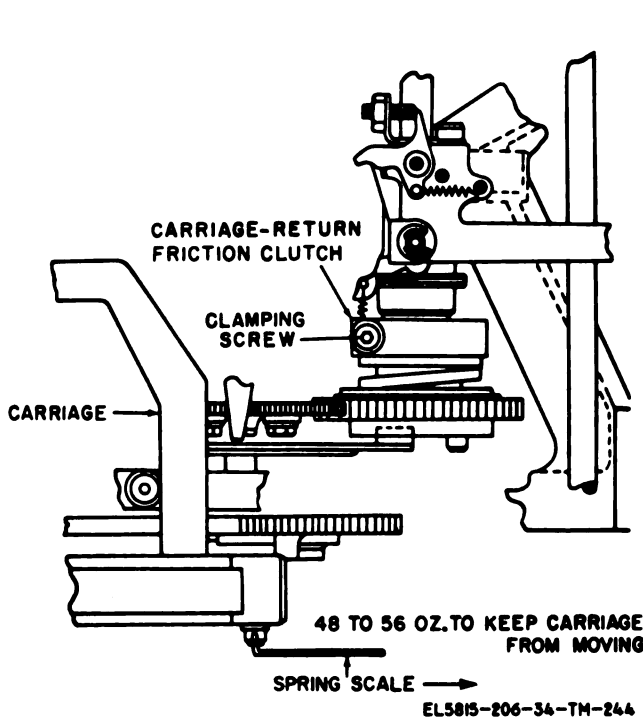

Figure 3-171. Carriage-feed friction-clutch adjustment.
**3-204. Carriage-Feed Friction-Clutch Adjustment (fig. 3-171)**
position the carriage 10 spaces from the left-hand margin. Hook a 64-ounce spring scale at the point shown on figure 3-171. Hold the spring scale and press the space bar. The carriage will move to the right until the pull of the spring scale stops it. Move the spring scale slowly to the right and read it when the carriage starts to move again. Continue reading the spring scale in this manner until the carriage has reached the right hand margin. Note the point at which the reading of the spring scale is the lowest. At this point, the reading should equal the requirement (a above).